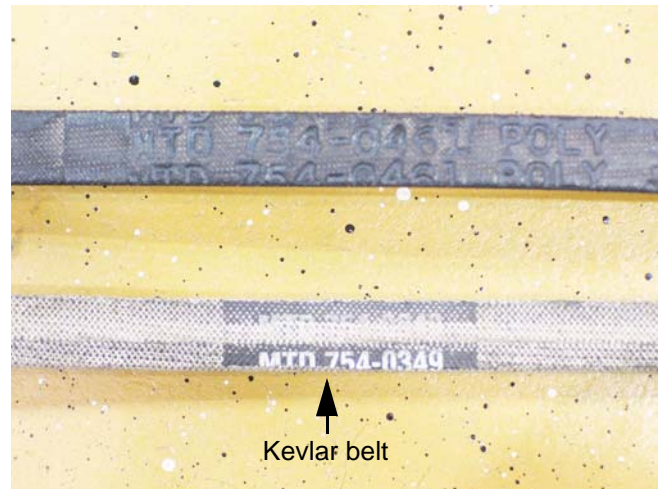

Figure 30.10
- 30.10. The belt for the G.T. models of the 1500 Series line is Kevlar wrapped. Substituting the poly-wrapped belt used on the L.T. models is not recommended, but the Kevlar belt is an acceptable premium upgrade for the L.T. tractors. See Figure 30.10.